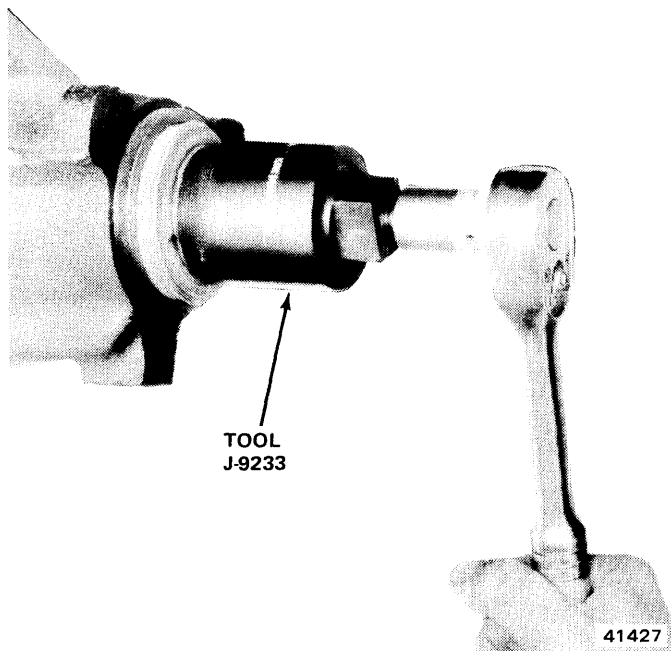
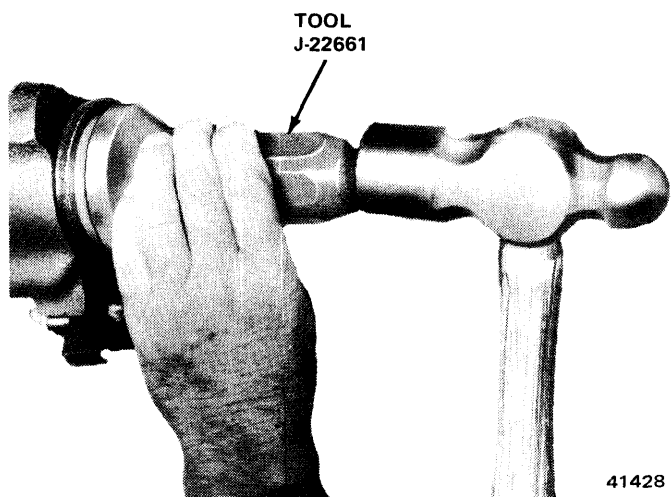

Fig. 10-26 Removing Pinion Seal
Fig. 10-27 Installing Pinion Seal
(1) Remove axle flange nuts, lockwashers, and split washers retaining axle shaft flange (fig. 10-26).
(2) Remove axle shaft from housing.
(7) Inspect seal surface of yoke. If surface is damaged or grooved, replace yoke.
(8) Remove pinion seal using Tool J-9233 (fig. 10-26).
(9) Before installing replacement seal, coat seal lip with rear axle lubricant.
(10) Install seal using Tool J-22661 (fig. 10-27).
(11) Install yoke on pinion. Note alignment marks. Install replacement pinion nut. Tighten nut using Tools J-8641-01 and J-22575 to remove pinion bearing end play only. **Do not overtighten.**
(12) Check torque required to turn drive pinion. Pinion must be turned several revolutions to obtain accurate torque reading. Refer to torque reading recorded during disassembly and add 5 inch-pounds for proper amount of torque.
(13) If preload torque is less than desired amount (disassembly torque reading plus 5 inch-pounds), tighten pinion nut slightly and check torque.
(14) Repeat these steps until desired torque is attained. **Do not loosen and retighten nut.**
- (15) Install propeller shaft. Align index marks made at disassembly
- (16) Install rear brake drums and wheels.